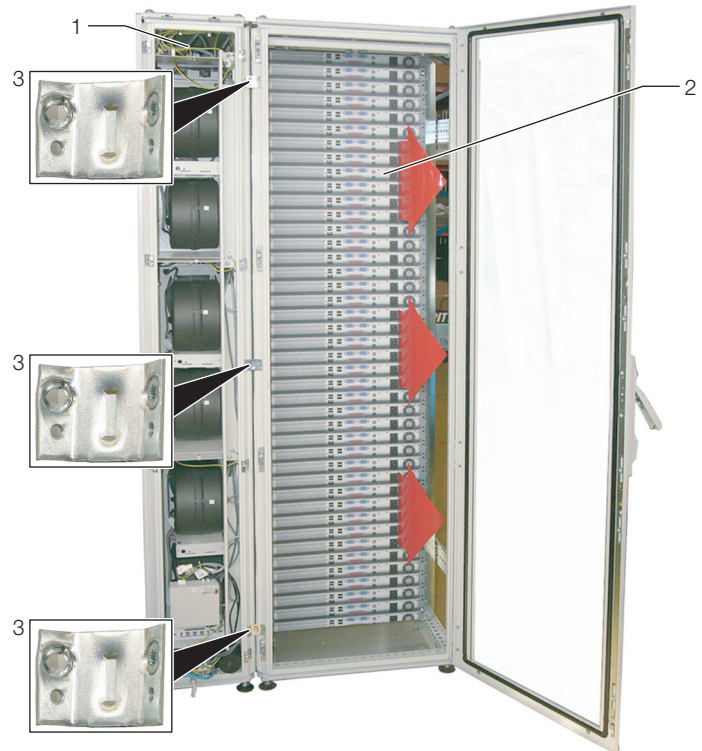

Fig. 5: Liquid Cooling Package on a server enclosure (rear)
- Using assembly screws, fasten three baying connectors each (Fig. 5, Pos. 3) onto the intended attachment points in the mounting rails on the front and rear sides of the Liquid Cooling Package (Fig. 5, Pos. 1).
- Using the corresponding assembly screws, fasten the baying connectors (Fig. 5, Pos. 3) onto the intended attachment points in the mounting rails on the front and rear sides of the server enclosure (Fig. 5, Pos. 2). As needed, press the Liquid Cooling Package lightly against the server enclosure in order to bring the baying connectors into alignment with the attachment points.